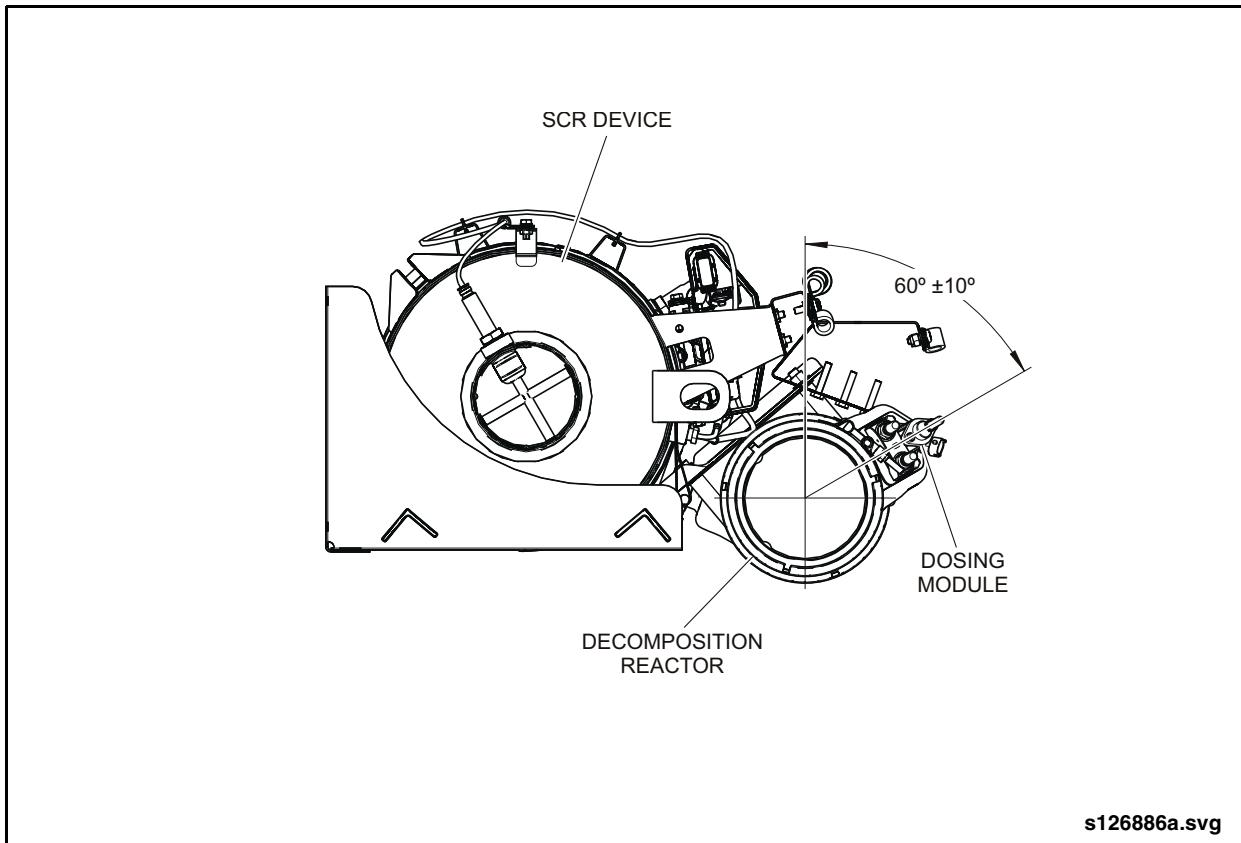

Fig. 4-20: Decomposition Reactor Alignment
3. Install the decomposition reactor and ensure the dosing module is rotated and aligned  $60^{\circ} \pm 10^{\circ}$  from the vertical. See "Fig. 4-20: Decomposition Reactor Alignment" on page 34.